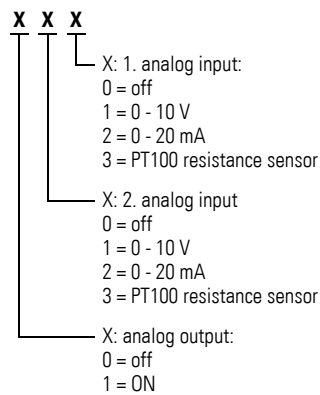
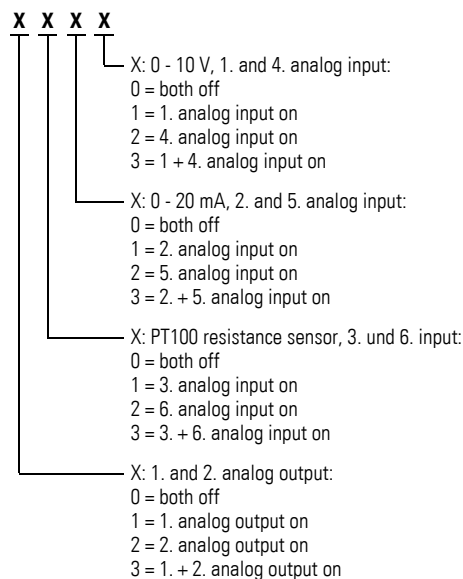

Figure 77: Configuration code EASY406-DC-ME (three-digit)
Figure 78: Configuration code EASY411-DC-ME (four-digit)
- ▶ Use the cursor buttons <> to select the digits to be modified, and then use the ^ v buttons to set the required value. Set the configuration code accordingly (→ Figure 77, page 85 and → Figure 78, page 85).